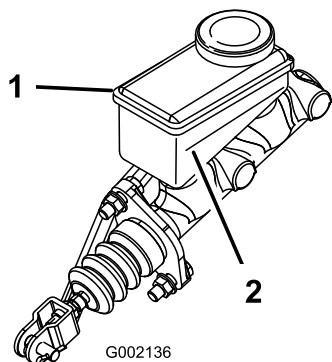

Figure 92
5. Look at the outline of the fluid level at the side of the reservoir (Figure 92).
- B. Add DOT 3 brake fluid to the reservoir until the fluid level is above the Minimum line (Figure 92).